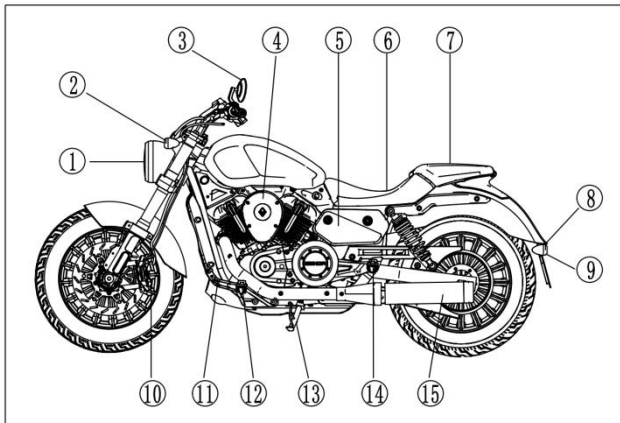

Figure 1
1. Left vehicle body (Figure 1)